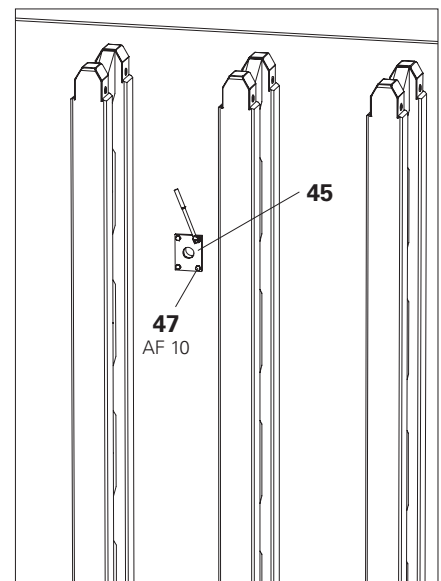

Fig. A5.09
3. Attach Anchor Positioning Plate M24 (45) to the rear side with four hex. Mount wood screw DIN 571 6 x 20 (47) on the formlining. (Fig. A5.09)